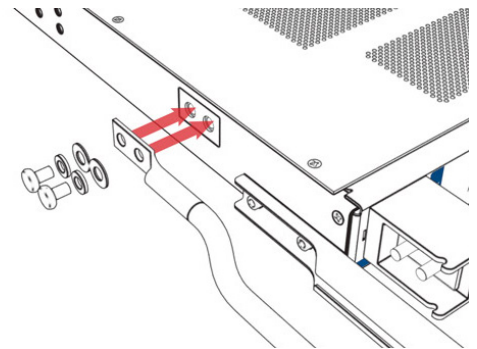

Figure 9. Chassis ground
- Step 1.** Secure the ground cable to the chassis by tightening 1/4 in. hardware (see Figure 9).